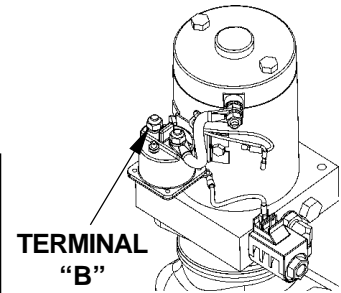

FIG. 47-1
1. Use voltmeter to verify that power is being supplied to Solenoid Terminal "B". Recharge the battery if voltmeter indicates less than 12.6 Volts (**FIG. 47-1**).